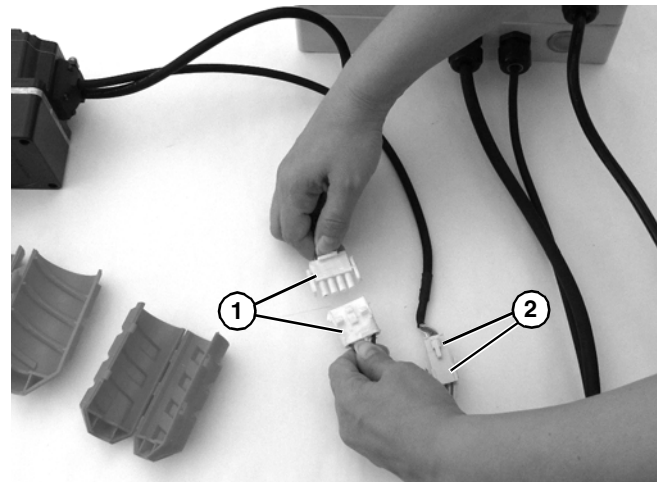

Figure 10
4. Connect motor plugs (Figure 10, item 1) and (Figure 10, item 2).